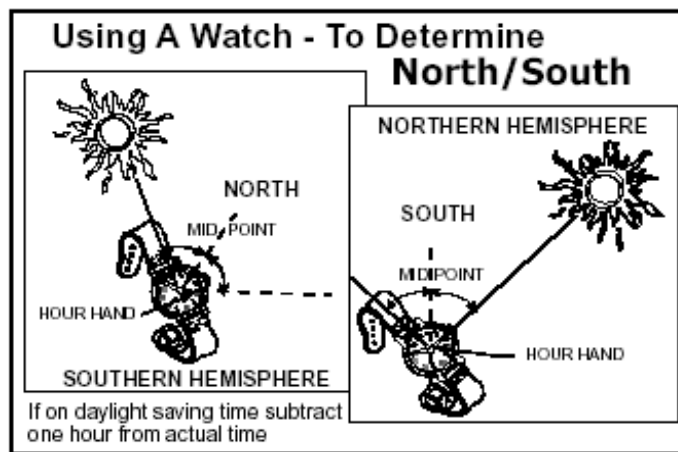

Figure 11-9. Direction using a watch.
- Using a wristwatch to determine general cardinal direction (Figure 11-9).